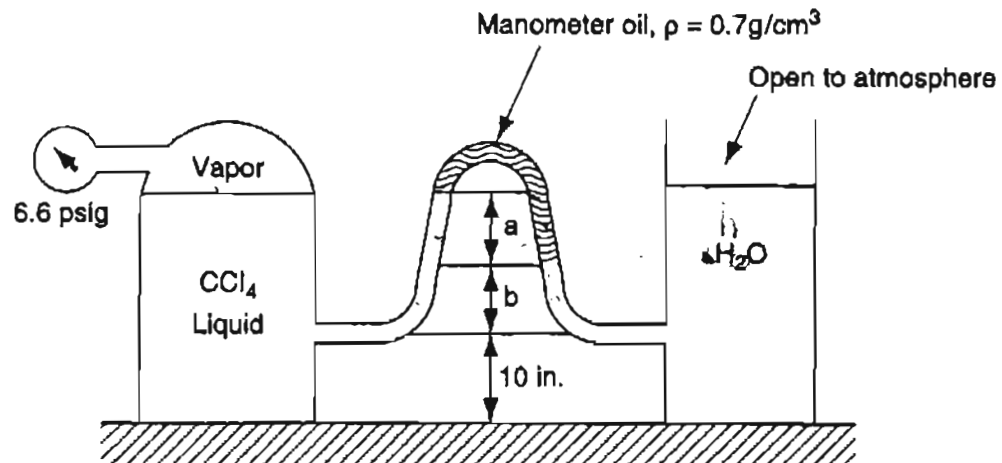

Figure P5.26
- 98**5.26 Examine Figure P5.26. Given that $a = 7.5$ in. and $b = 12$ in., what is the height of the water in the right hand vessel?